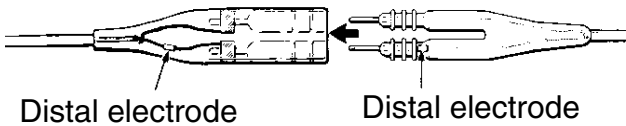

Figure 1. Insert the lead connector into the adaptor receptacle
2. Gently insert the male connector ends of the pacing leads into the female receptacle ends of the adaptor until seated firmly (see Figure 1). If necessary use sterile water as an insertion lubricant. The white bands on the lead connector and the adaptor receptacle must match during insertion to ensure proper electrical polarity.